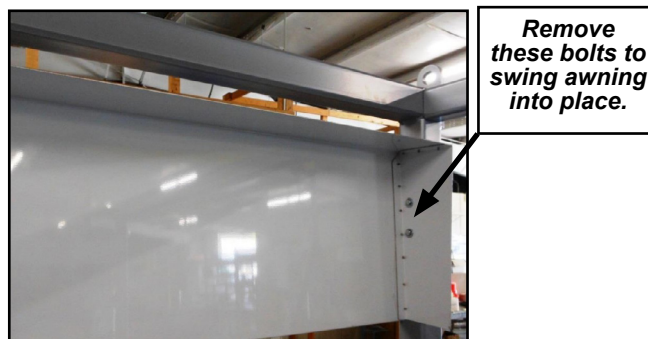
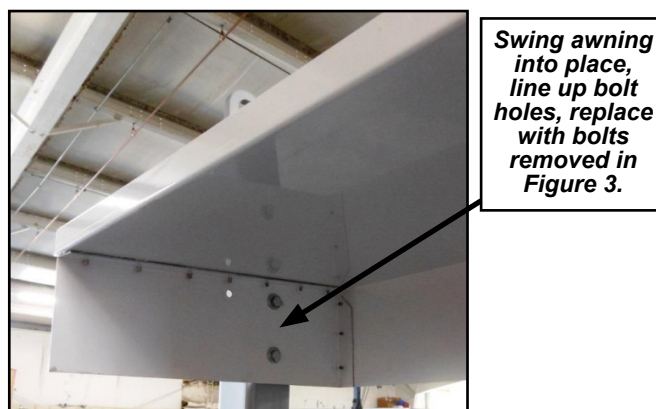

Figure 3 - Removing bolts on awning
Figure 4 - Replacing bolts on awning
- The awning covers for the manifolds on each side of the skid are folded down and bolted in place during shipment (see Figure 3). Remove the bottom bolts that are holding the awning in place and swing the awning up into position. Replace the bolts to hold the awning in the proper position (see Figure 4).